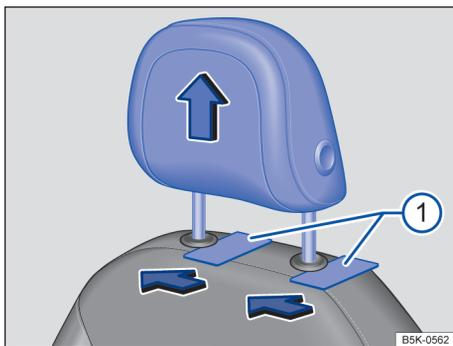

Fig. 72 Removing the front head restraints.
- Slide a flat object, such as a plastic credit card, underneath the right side of the cap (left side if sitting behind the head restraint) on the right-hand seat guide rod → fig. 72 ⓘ to unlock the head restraint.